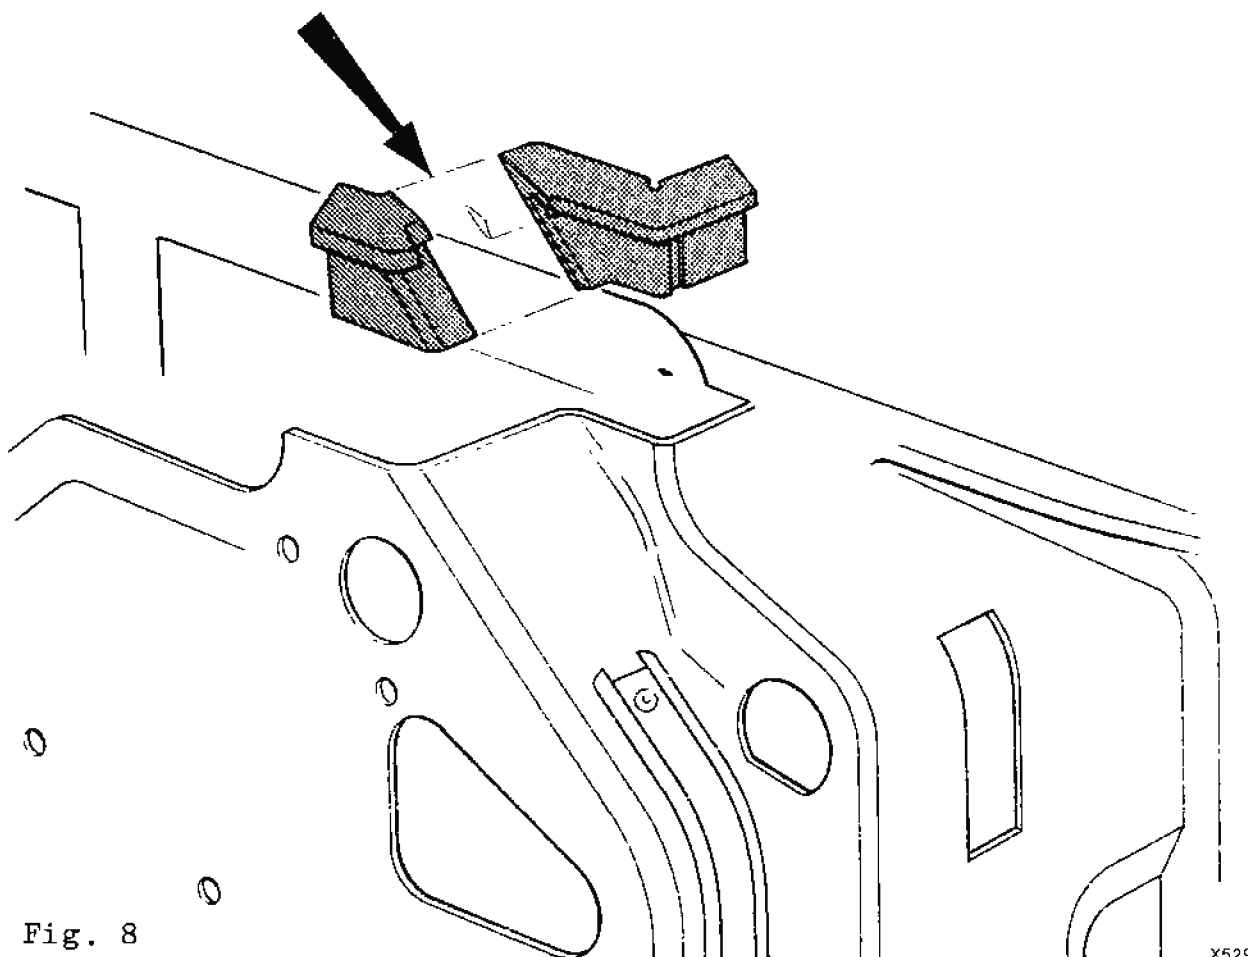

Fig. 8
18. Refit the window frame leg seal and position the frame in the door. Check the window frame front leg fits flush on the door panel, if not, this is due to the frame front seal fouling and it may be necessary to remove a portion of this seal (see fig. 8).